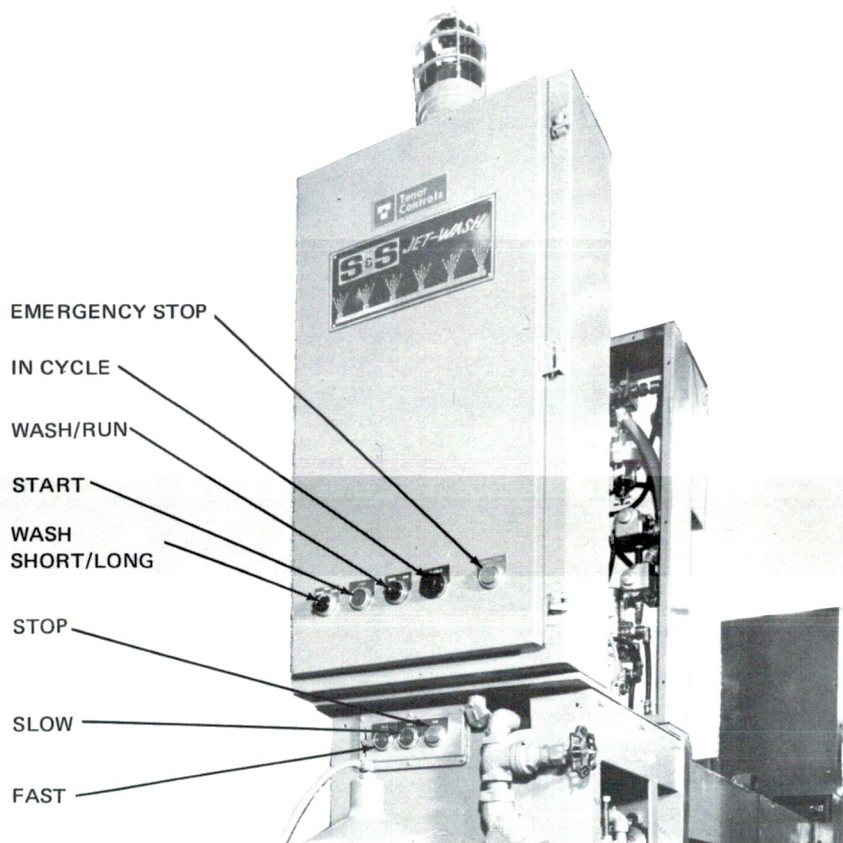

FIGURE 10-7. CONTROLS AND INDICATORS
The operation controls are mounted on the Jet-Wash control cabinet on the drive side of the printing unit (Figure 10-7). Table 10-1 lists the name and use of all the controls and indicators for the Jet-Wash system. Table 10-2 lists the hydro-pneumatic valves and Table 10-3 lists manual gate valves. Refer to Table 4-3 for ink pump operating controls.
Step 6) Press START button and hold (Figure 10-7).
Step 7) Turn WASH/RUN selector switch (Figure 10-7) to WASH position.
Step 9) Observe the green indicator (Figure 10-7). When light goes out, the wash is complete and unit is ready for new ink.
Step 5) Press ink pump SLOW button (Figure 10-7).